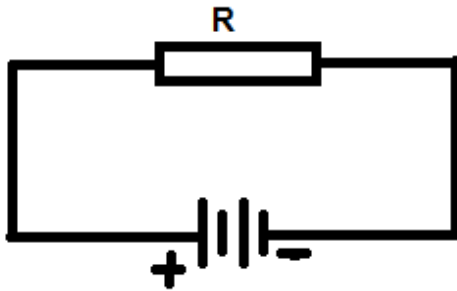

FIGURE 2.1: A RESISTOR CONNECTED ACROSS THE BATTERY
- 2.7 Redraw the circuit diagram in Figure 2.1 and illustrate how you would connect an ammeter and a voltmeter in the circuit. Also indicate polarity of ammeter and voltmeter leads. (5)